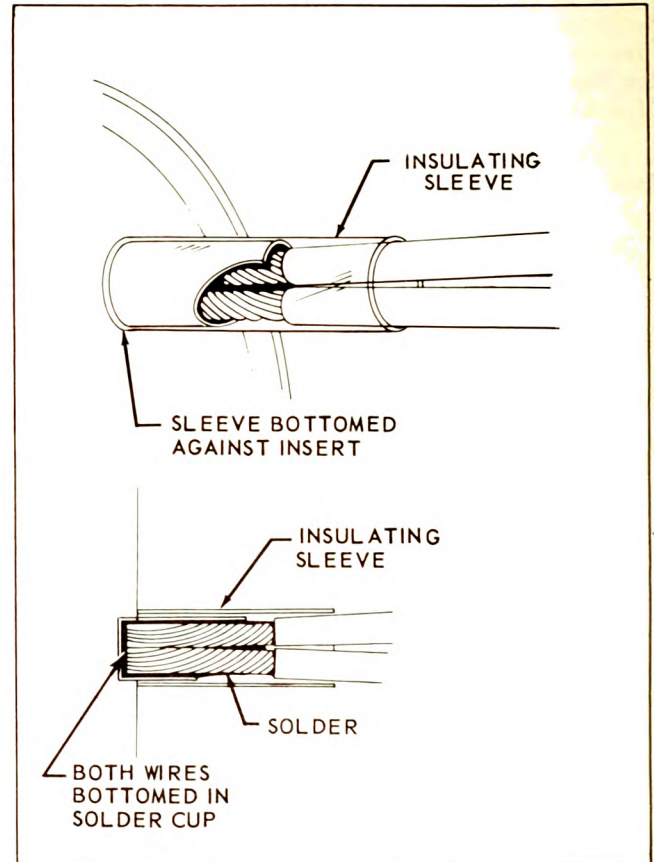

Figure 3-74. Terminating Two Wires at One Contact
a. If both wires can be fitted into contact solder cup, proceed as with single wire. Slide insulating sleeve over both wires together and insert them into solder cup. Be sure all strands are inside cup before soldering. When solder has cooled push insulating sleeve down until it butts against insert. See Figure 3-74.